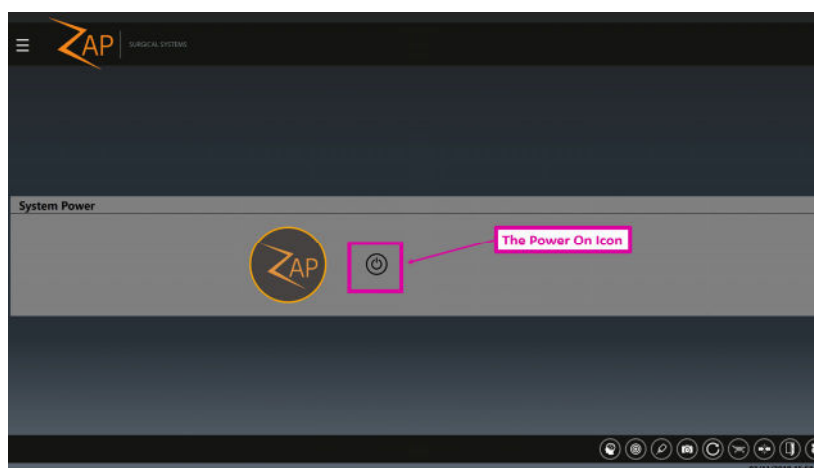

Figure 3.1.3. The Power-On Icon.
- 2) The Main UI screen will display the Dashboard in the powered-off state. (Figure 3.1.3) Click on the Power button to initiate system power-up.